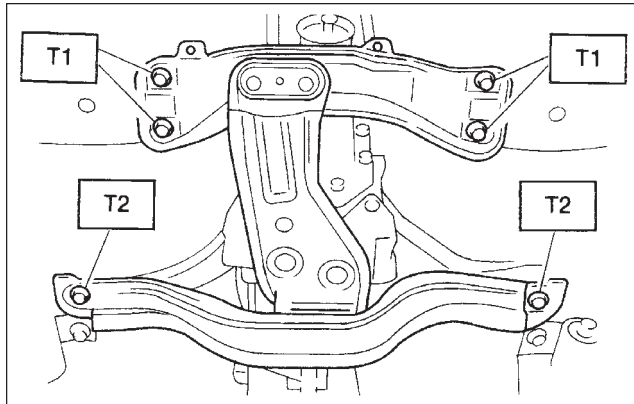

Figure 3
- 2) Install a new sealing cover using 3M™ Windo-Weld™ Round Ribbon Sealer 08625 (See figure 3, below). Make sure to use a uniform bead and press firmly to insure the sealing cover stays in place. **Note:** Breaks in the bead will allow water leakage and contamination.
During reinstallation, follow the torque sequence, below (**Figure 2**) and the torque specifications (**Figure 3; next page**).
Bolts must be torqued to the proper specifications (**Figure 3**).